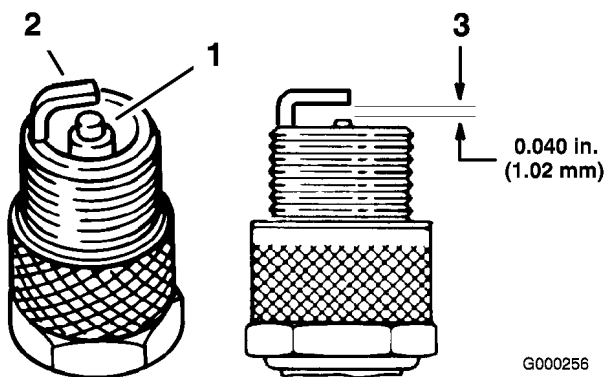

Figure 34
1. Look at the center of the spark plug(s) (Figure 34). If you see light brown or gray on the insulator, the engine is operating properly. A black coating on the insulator usually means the air cleaner is dirty.
2. Check the gap between the center and side electrodes (Figure 34). Bend the side electrode if the gap is not correct.